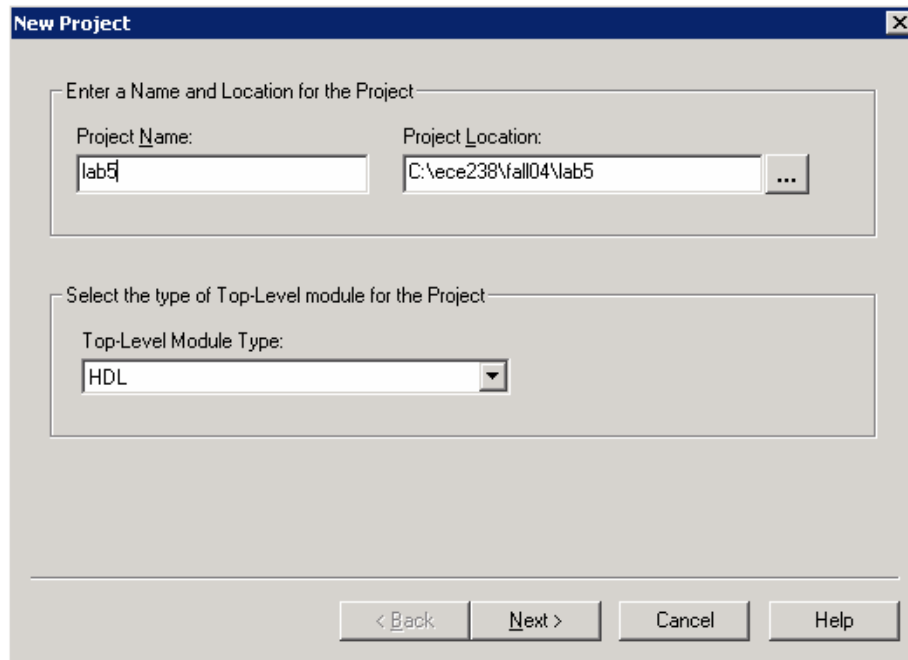

Figure 3. Creation of a new project.
3. Create the **lab5** project; In the Project Navigator, select **File** → **New Project** and setup options as shown in figure 3. Click **Ok**.